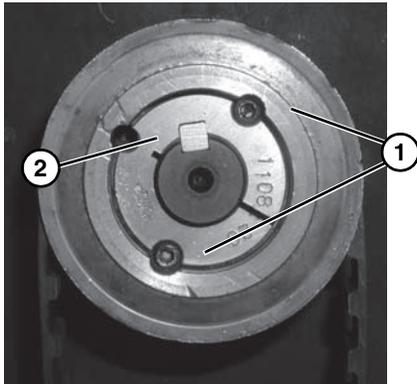

Figure 12
2. Remove taper-lock screws (**Figure 12, item 1**). Insert one (1) of taper lock screws in remaining hole (**Figure 12, item 2**). Tighten screw until pulley is loose. Remove pulley and taper hub assembly.